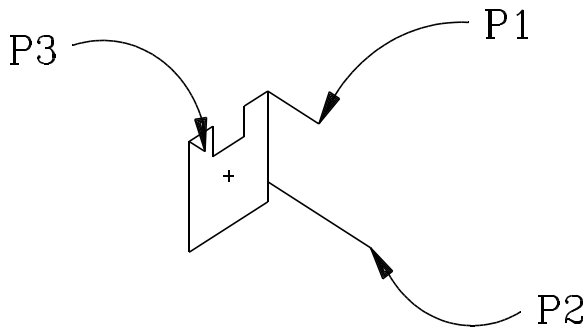

Figure 4
21. Click on points P1, P2, and P3 in that order. (See Figure 4.)